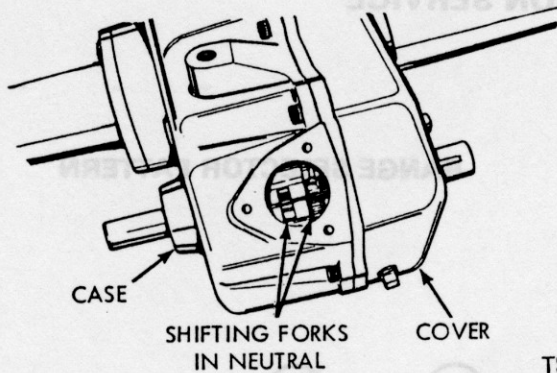

Figure 61 - Transaxle Case
2. Place Shifter shaft (Figure 61) in neutral.
3. Remove shifter lever assembly by removing (3) cap screws and lifting assembly from the transaxle. (See page 20 of SECTION I for servicing.)